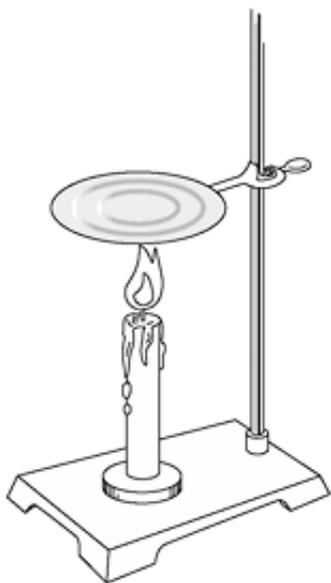

Figure 1
4. Place your new aluminum foil tray on an iron ring attached to a ring stand. Position the ring so that it is about three or four centimeters above the tip of a low/yellow Bunsen burner flame. Instead of the candle as shown in **Figure 1** below, you will use a low/yellow flame on a Bunsen burner. Light the Bunsen burner for a moment to check that you have the correct height.